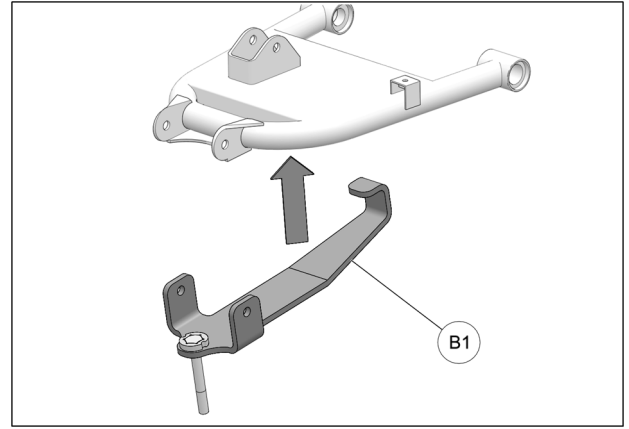

Fig. 7
6. Position anchor bracket (**B1**) under rear suspension arm. See Fig. 7